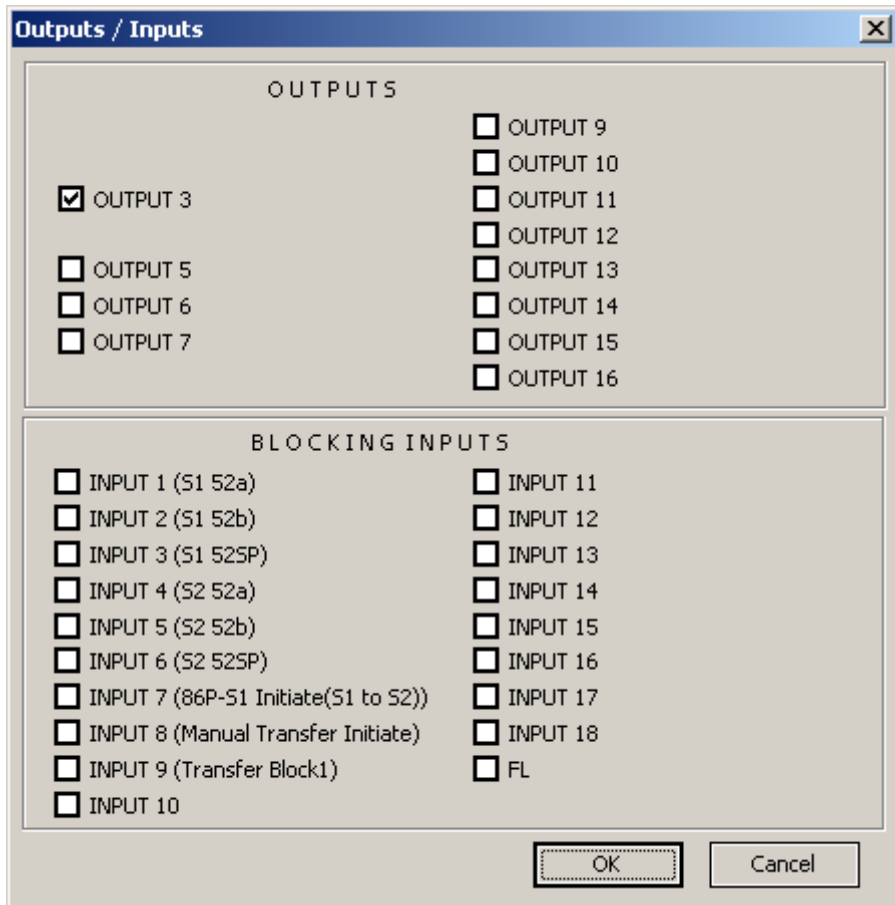

Figure 4-78 S1 BF Source 1 Breaker Failure (Breaker Status) I/O Selection Dialog Screen
**I/O Selection** — The I/O Selection button opens the S1 BF Source 1 Breaker Failure Outputs Blocking Inputs Selection Dialog Screen (Figure 4-78). This screen allows any input or the Fuse Loss (FL) function to be selected to block the S1 BF Function. The S1 BF Function can also be used to activate a selected output when it times out.